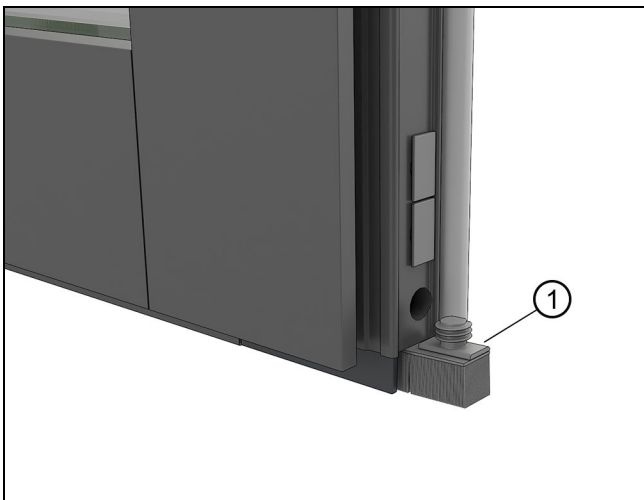

Figure 90
4. On inactive panels meeting stile side, pry the lower plug and dust cover down to reveal the adjustment hole. See Figure 90.